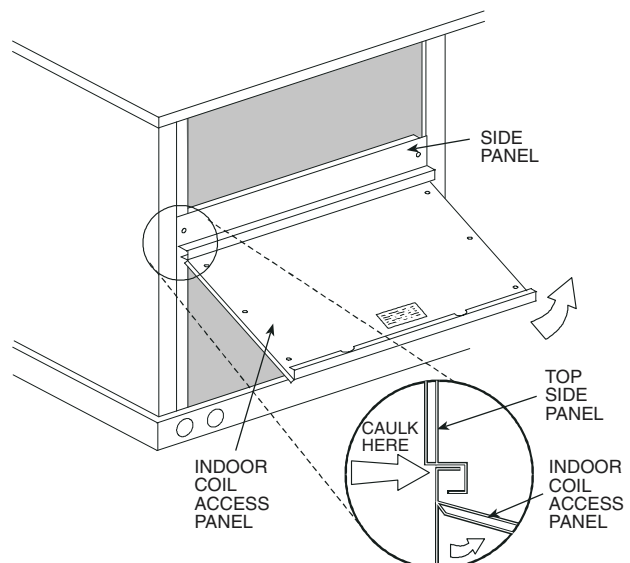

Fig. 22 — Indoor Coil Access Panel Relocation
- The indoor coil access panel will be used as the top of the hood. Remove the screws along the sides and bottom of the indoor coil access panel. See Fig. 22.
- Caulk the ends of the joint between the unit top panel and the hood top. See Fig. 22.